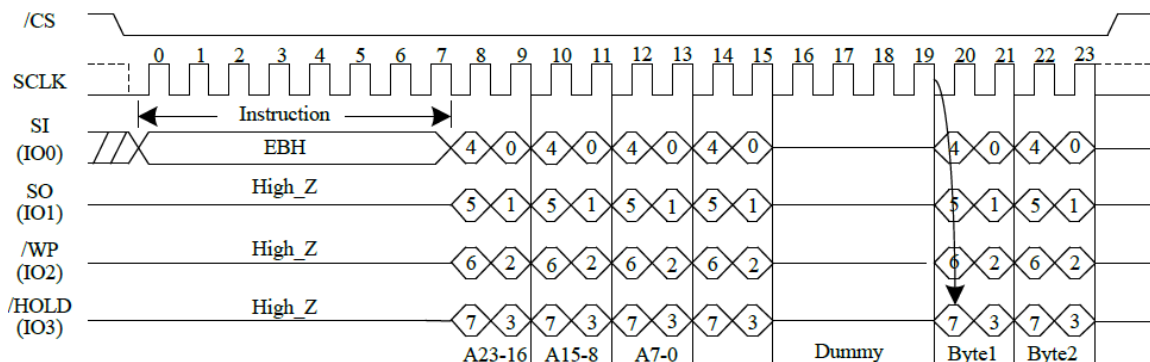
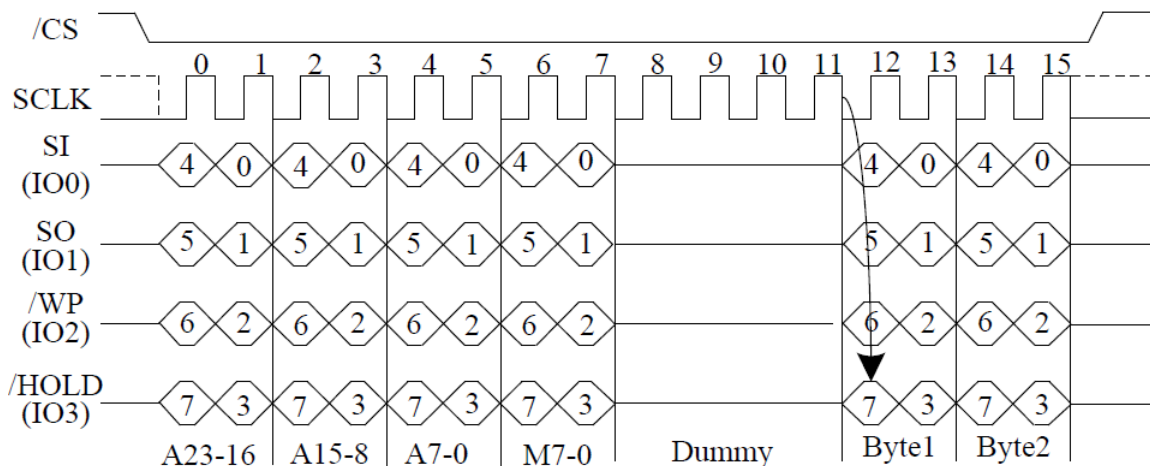

Figure 13. Quad I/O Fast Read Sequence Diagram (Initial command or previous (M5-4≠(1,0)))
Figure 14. Quad I/O Fast Read Sequence Diagram (Previous command set (M5-4)=(1,0))
See Figure 13, the Quad I/O Fast Read instruction is similar to the Dual I/O Fast Read instruction but with the capability to input the 3-byte address (A23-0) and a “Continuous Read Mode” byte and 4-dummy clock 4-bit per clock by IO0, IO1, IO3, IO4, each bit being latched in during the rising edge of SCLK, then the memory contents are shifted out 4-bit per clock cycle from IO0, IO1, IO2, IO3. The first byte addressed can be at any location. The address is automatically incremented to the next higher address after each byte of data is shifted out. The Quad Enable bit (QE) of Status Register must be set to enable for the Quad I/O Fast read instruction.
The Quad I/O Fast Read instruction can further reduce instruction overhead through setting the “Continuous Read Mode” bits (M7-0) after the input Address bits (A23-0), as shown in Figure 13, If the “Continuous Read Mode” bits (M5-4) = (1,0), then the next Fast Read Quad I/O instruction(after /CS is raised and then lowered) does not require the EBH instruction code, The instruction sequence is shown in the followed Figure 14. If the “Continuous Read Mode” bits M5-4 do not equal to (1,0), the next instruction requires the first EBH instruction code, thus returning to normal operation. A “Continuous Read Mode” Reset command can also be used to reset (M5-4) before issuing normal command.